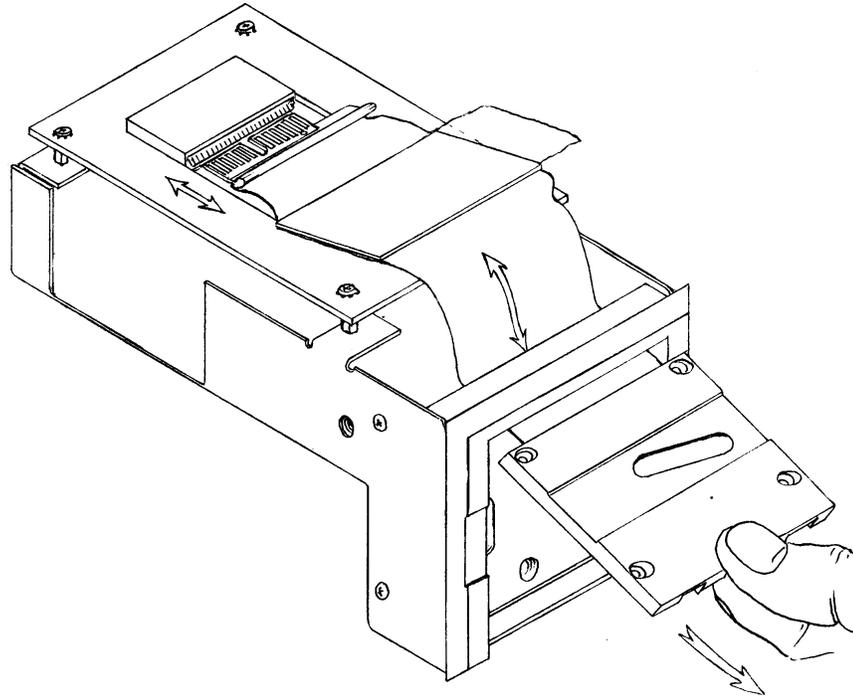

Figure 8-5
7. Gently slide the Printhead ribbon cable through the slot in the Printhead Housing Assembly. (Figure 8-5)